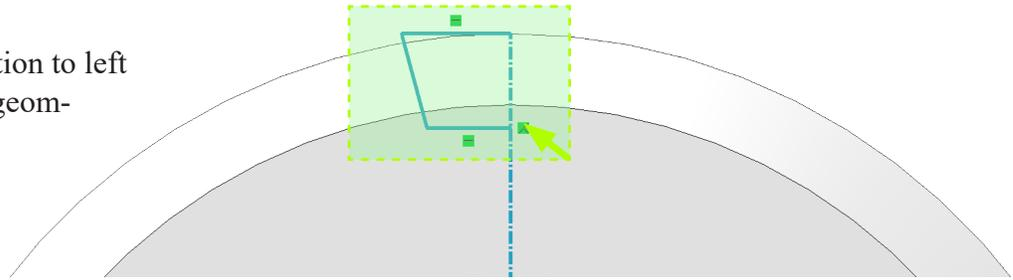

Fig. 12
Step 8. Drag a selection to left to select all geometry, **Fig. 12.**